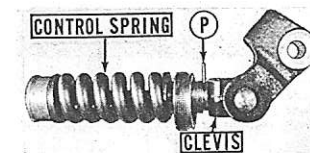

Fig. 274—Control spring assembly removed from cover. Remove pin (P) to turn clevis for spring adjustment.
241. **CONTROL SPRING ADJUSTMENT.** To check the master control spring link as shown in Fig. 273 and check for end play by pushing and pulling on the clevis. If end play is present, loosen the Allen head set screw (S) in side of housing and unscrew the retainer nut (N), using the special spanner wrench FT-358. Withdraw the master control spring assembly as shown in Fig. 274. Remove the groove pin (P) and turn the clevis on control spring plunger until spring is snug but can still be rotated by hand pressure. Align one of the slots and insert groove pin.